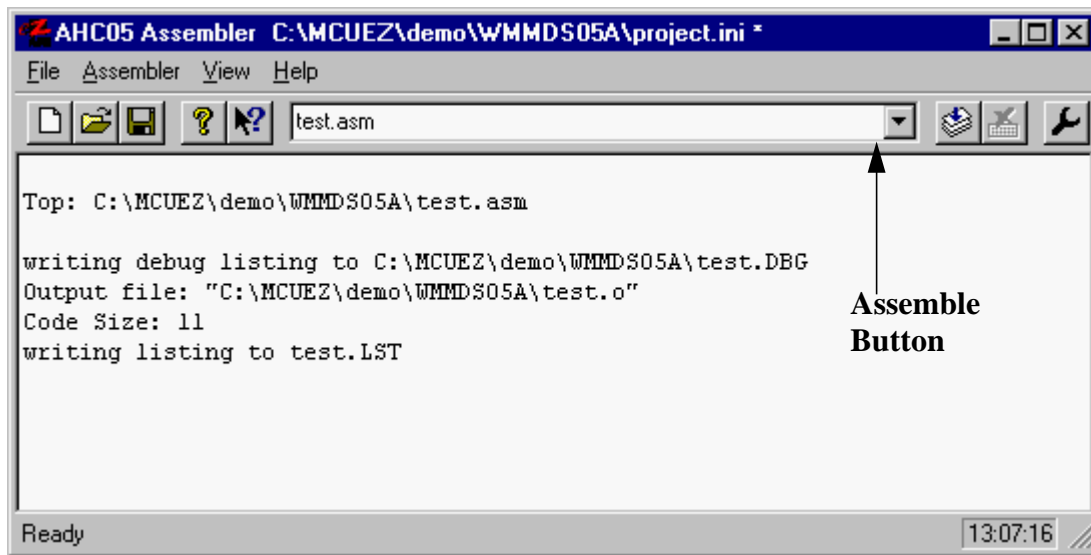

Figure 1-8. Assembling a File
4. Click on the **Assemble** button to assemble the file. See Figure 1-8.